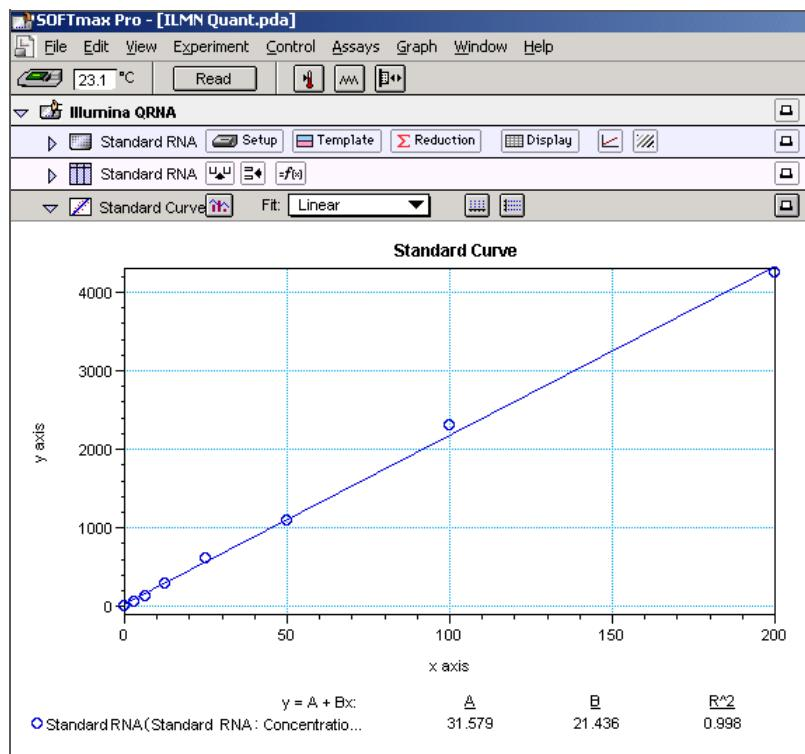

Figure 87 View Standard Curve
- Click the blue arrow next to **Standard Curve** to view the standard curve graph (Figure 87).